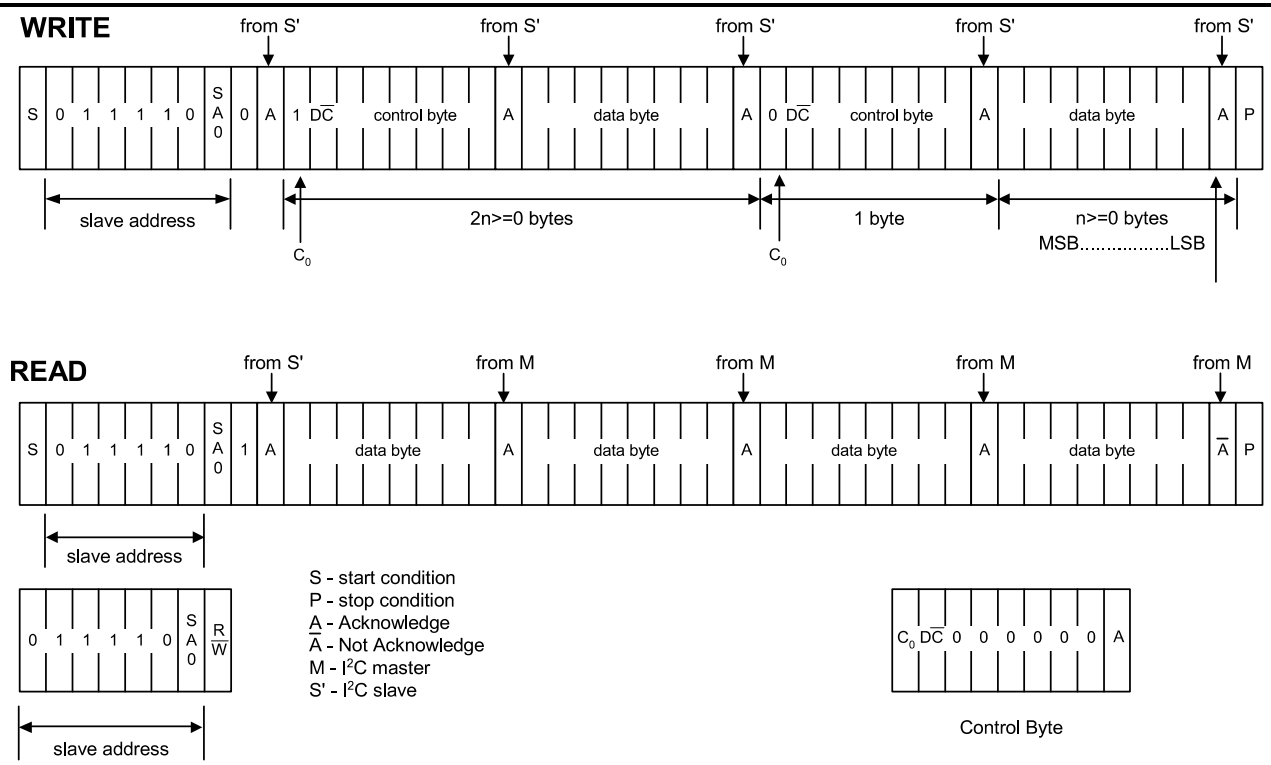

Figure 7 I²C Protocol
The SH1106 supports both read and write access. The $\overline{R/\overline{W}}$ bit is part of the slave address. Before any data is transmitted on the I²C-bus, the device that should respond is addressed first. Two 7-bit slave addresses (0111100 and 0111101) are reserved for the SH1106. The least significant bit of the slave address is set by connecting the input SA0 to either logic 0(VSS) or 1 (VDD1). The I²C-bus protocol is illustrated in Fig.7. The sequence is initiated with a START condition (S) from the I²C-bus master that is followed by the slave address. All slaves with the corresponding address acknowledge in parallel, all the others will ignore the I²C-bus transfer. After acknowledgement, one or more command words follow which define the status of the addressed slaves. A command word consists of a control byte, which defines Co and $\overline{D/\overline{C}}$ (note1), plus a data byte (see Fig.7). The last control byte is tagged with a cleared most significant bit, the continuation bit Co. After a control byte with a cleared Co-bit, only data bytes will follow. The state of the $\overline{D/\overline{C}}$ -bit defines whether the data-byte is interpreted as a command or as RAM-data. The control and data bytes are also acknowledged by all addressed slaves on the bus. After the last control byte, depending on the $\overline{D/\overline{C}}$ bit setting, either a series of display data bytes or command data bytes may follow. If the $\overline{D/\overline{C}}$ bit was set to '1', these display bytes are stored in the display RAM at the address specified by the data pointer. The data pointer is automatically updated and the data is directed to the intended SH1106 device. If the $\overline{D/\overline{C}}$ bit of the last control byte was set to '0', these command bytes will be decoded and the setting of the device will be changed according to the received commands. The acknowledgement after each byte is made only by the addressed slave. At the end of the transmission the I²C-bus master issues a stop condition (P). If the $\overline{R/\overline{W}}$ bit is set to one in the slave-address, the chip will output data immediately after the slave-address according to the $\overline{D/\overline{C}}$ bit, which was sent during the last write access. If no acknowledge is generated by the master after a byte, the driver stops transferring data to the master.